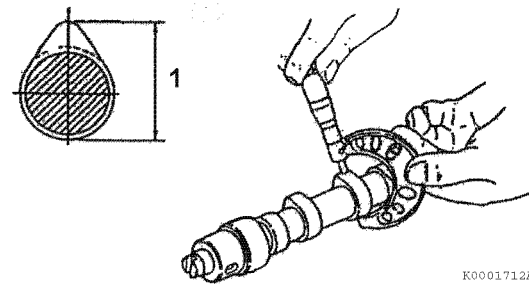

Figure 6-125
3. Measure the height of each lobe (1, **Figure 6-125**). See *Camshaft on page 6-8 for specifications*.